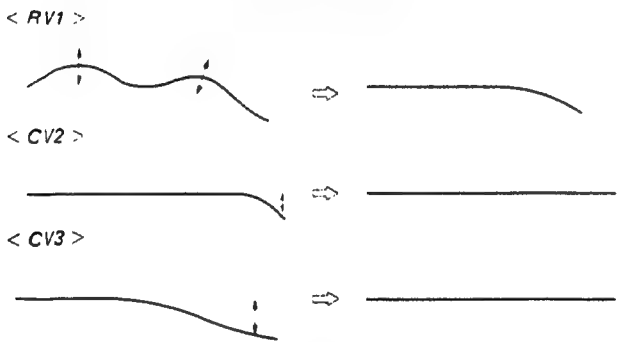

Fig. 5-2
- Adjust RV1, CV2 and CV3 of the BG board so that the output waveform becomes flat in a range of 0 to 10MHz as shown in Fig. 5-2. (within 0±0.5dB)